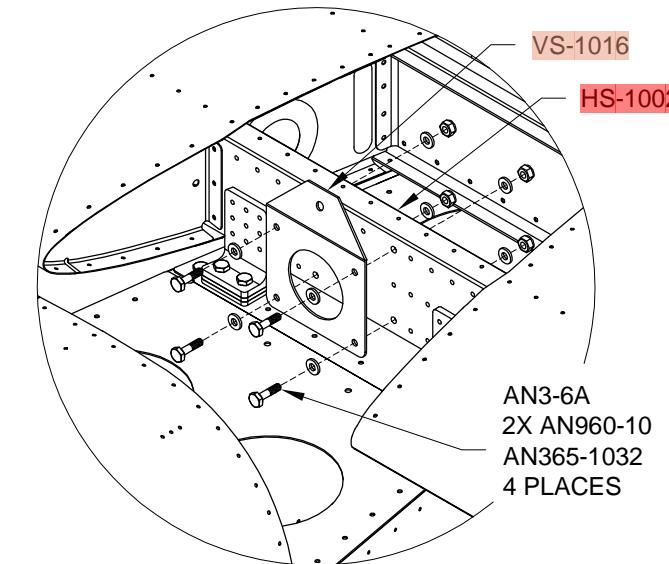

FIGURE 4: ATTACH VS-1016
Step 4: Bolt the VS-1016 Vertical Stabilizer Attach Bracket to the HS-1002 Front Spar as shown in Figure 4.